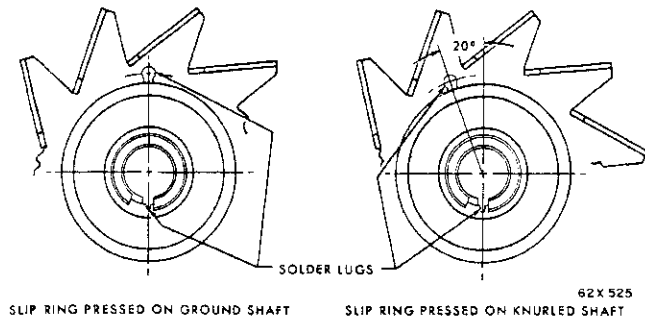

Fig. 67—Slip Ring Solder Lugs
- (1) Unsolder the field coil leads at the solder lugs (Fig. 67).